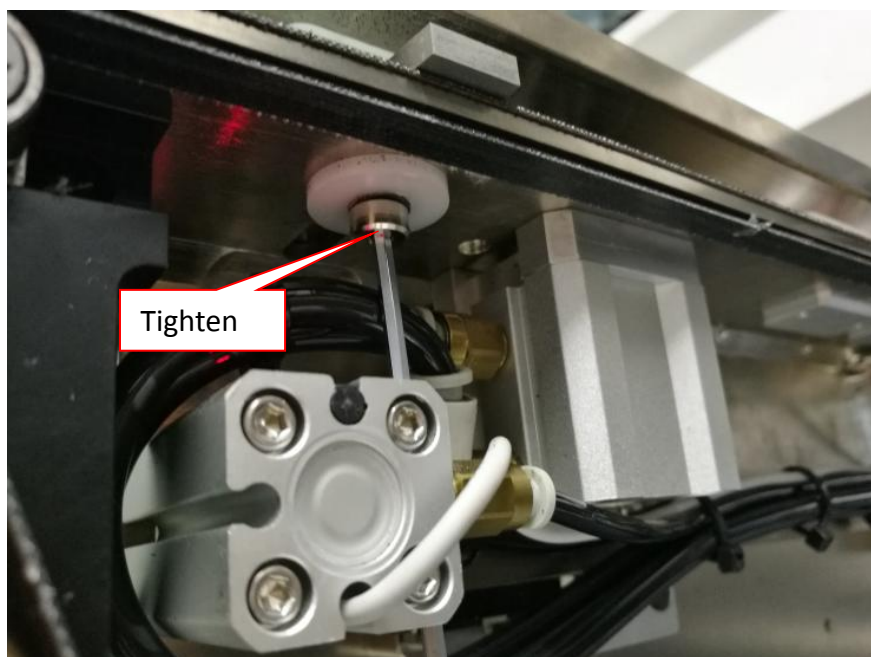

Figure 6 Stop, PC Board assembly
4. Assemble all fastening (PIP Shoulder Screw, Curved Washer & Spacer) into PIP Board Stop as Figure 6. Tighten Shoulder Screws.